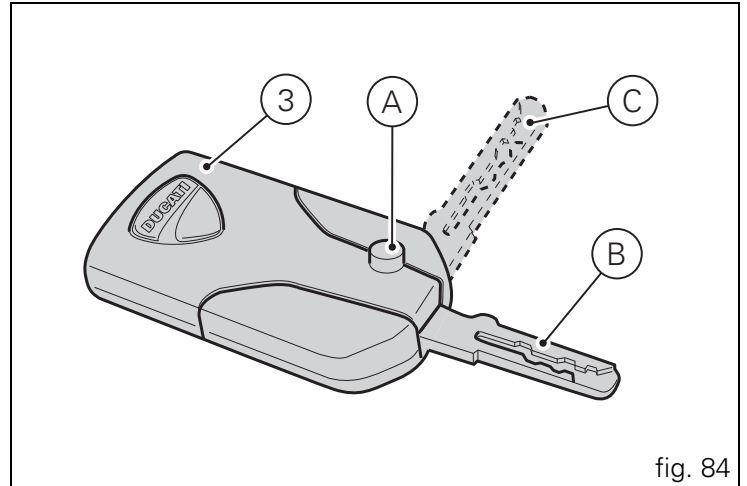

fig. 84
The key (3) metal part is hidden inside the key: press button (A, fig. 84) to fully open the metal part, i.e. position (B, fig. 84). Hold depressed button (A, fig. 84) you to move the metal part and set it to the middle position (C, fig. 63); once in place, release button to lock.
With the vehicle in Key-On and "engine off", if the presence of the active key (3, fig. 84) is not detected for thirty consecutive seconds, the motorcycle will turn off automatically without any action by the rider.